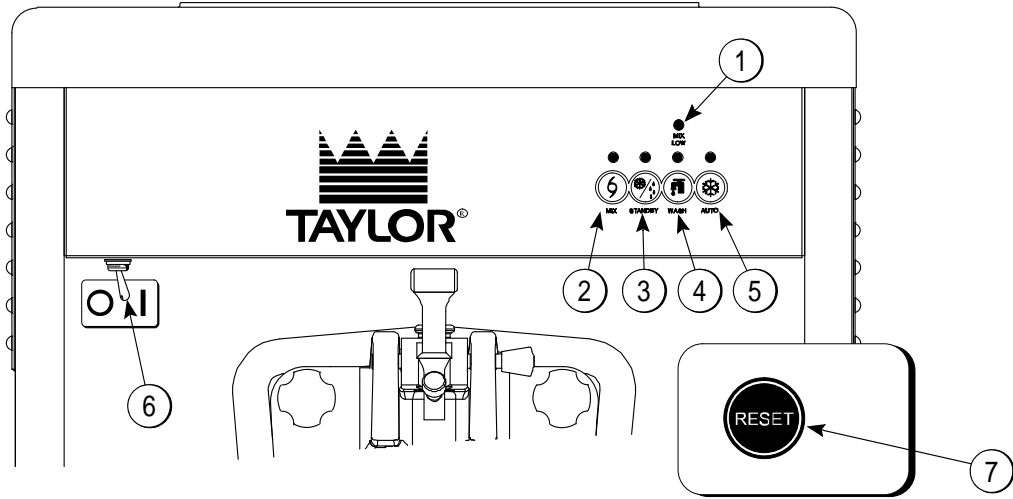

Figure 5-1
**Note:** Legend for figures 5-1 and 5-2.